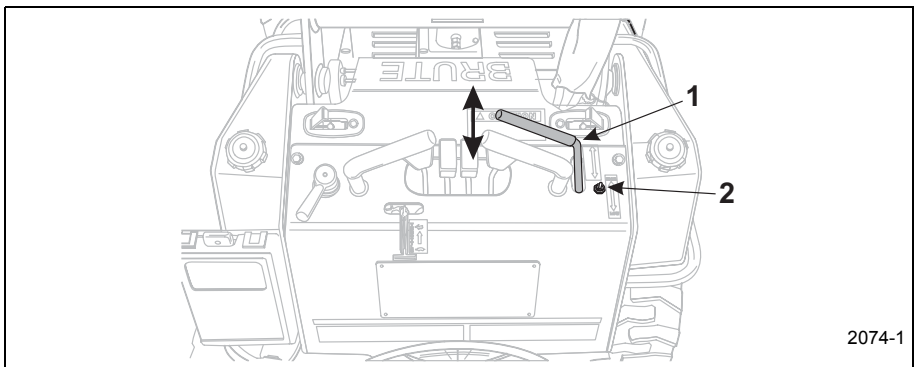

Figure 3–29 Auxiliary Control Lever
- a. With the engine OFF, move the AUXILIARY control lever (Item 1, Figure 3–29) toward the hand hold, or the FORWARD position, or move the lever BACKWARD into the REVERSE detent position. This will release the hydraulic pressure locked in the auxiliary hydraulic lines. Leave the control lever in the REVERSE detent position.
- b. Remove the protective covers (Items 2, 6, Figure 3–30) from the attachment quick connectors.